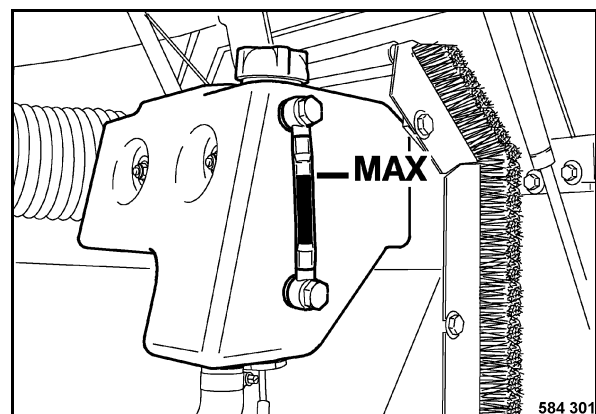

Fig. 177
- Unscrew the cover (Fig. 177) from the compensation tank.